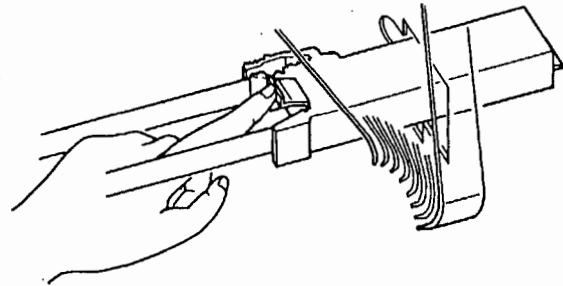

Fig 6.7
- (7) Bring the ribbon cassette to the middle of the recorder, then change it from the right hand to the left hand to prevent the right hand from coming into contact with the pen carriage. Insert half of the cassette into the square hole on the right side plate and push the angled section at the end of the cassette. (Fig. 6.7)